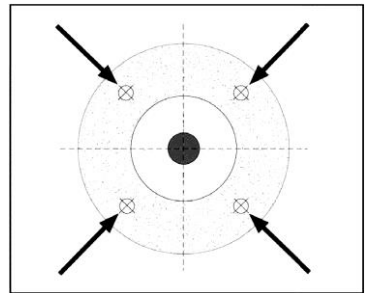

Fig. 10
3. At the spots shown in Figure 10, gently tap the wheel with a light non-metallic device such as the handle of a screwdriver or a wooden mallet.